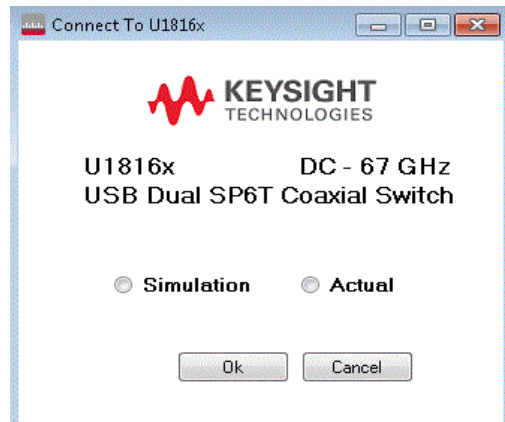

Figure 4-2 U1816A/C/E/F SFP window
- Upon launching the SFP, the U1816A/C/E/F SFP window appears as shown in Figure 4-2.
- When the U1816A/C/E/F is not connected, the simulation mode can be used. On the U1816A/C/E/F SFP window (Figure 4-2), click **Simulation** radio button. Then, click **Simulate** to access the main interface of the U1816A/C/E/F.